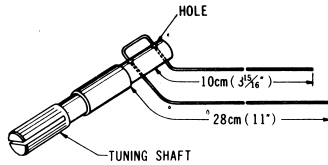

Fig. 2-8
3. Extend the dial rope through the holes in the tuning shaft as shown in Fig. 2-8